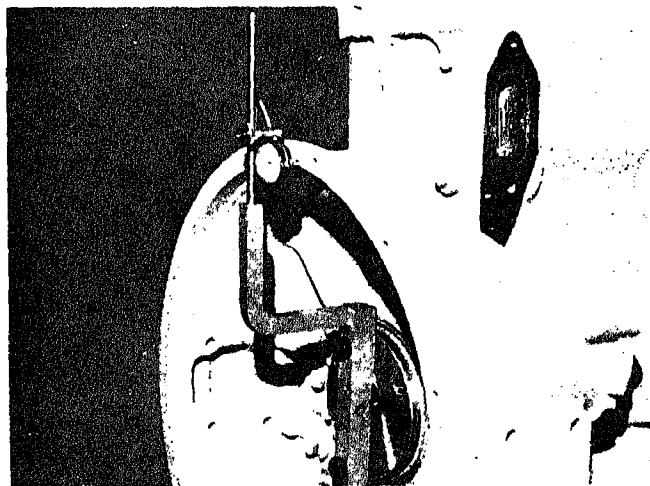

Fig. 14-1-58. Indicating flywheel housing face
2. Draw chalk marks at A, A1, B and B1, Fig. 14-1-58.
1. Attach indicator gauge as shown in Fig. 14-1-58.